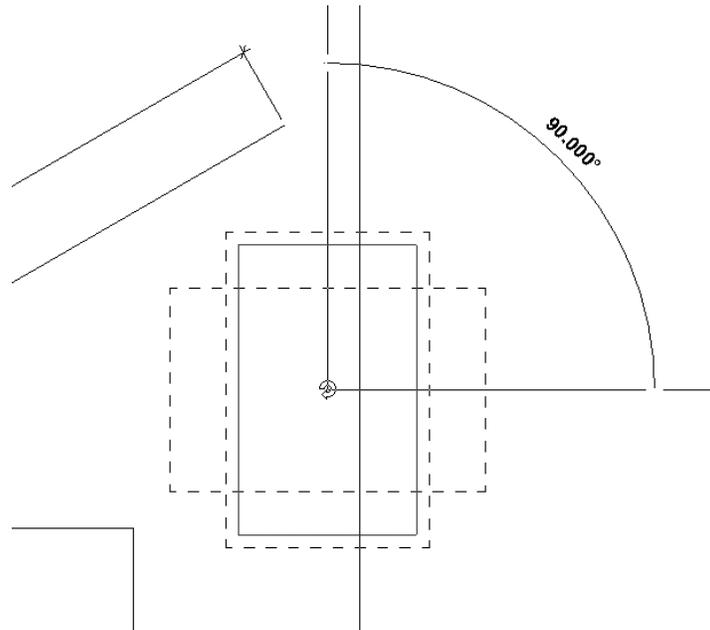

Figure 3-3.7 Rotate tool – Last Step; Select angle visually or type angle
16. Move the mouse up and to the left until 90 degrees is displayed and then click to complete the rotate (Figure 3-3.7).